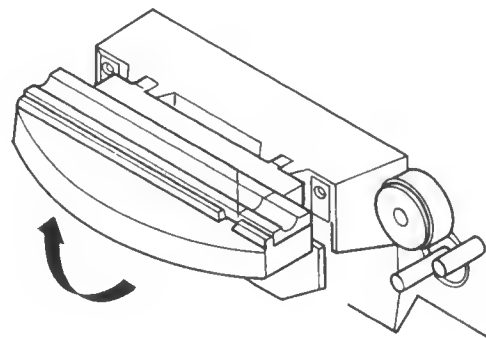
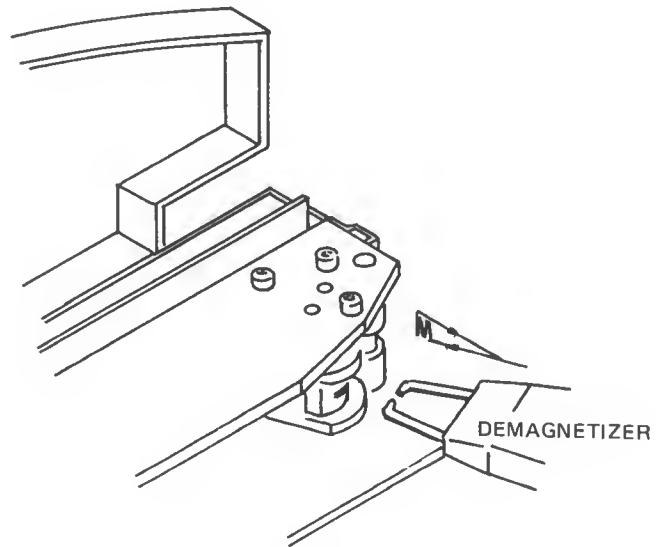

Fig. 4-1 Lifting the Head Cover
Fig. 4-2 Demagnetizing
- (1) Lift the head cover as illustrated in Fig. 4-1.
- (2) Clean each head stack thoroughly with a cotton-tipped applicator dampened with head cleaner.
- (1) Turn the unit's power off and remove any recorded tape near the transport. The tape could be partially erased by the demagnetizer.
- (2) Lift the head cover as illustrated in Fig. 4-1.
- (3) Cover the demagnetizer tips with adhesive tape to prevent scratching the head stacks.
- (4) With the demagnetizer held away from the transport, connect the demagnetizer to a power source.
- (5) Move the demagnetizer tips slowly close to the head, lightly touch the face of one head stack and slowly move the tips up and down the stack several times. Then slowly withdraw the demagnetizer as shown in Fig. 4-2.